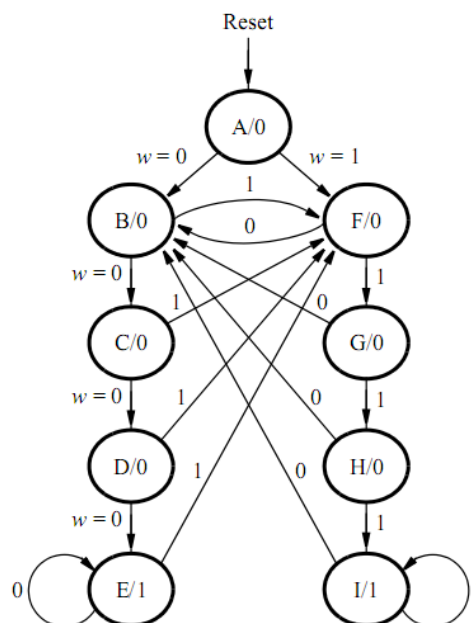

Figure 2. A state diagram for the FSM.
A state diagram for this FSM is shown in Figure 2. For this part you are to manually derive an FSM circuit that implements this state diagram, including the logic expressions that feed each of the state flip-flops. To implement the FSM use nine state flip-flops called  $y_8, \dots, y_0$  and the one-hot state assignment given in Table 1.
For this part you are to write another style of VHDL code for the FSM in Figure 2. In this version of the code you should not manually derive the logic expressions needed for each state flip-flop. Instead, describe the state table for the FSM by using a VHDL CASE statement in a PROCESS block, and use another PROCESS block to instantiate the state flip-flops. You can use a third PROCESS block or simple assignment statements to specify the output z.
5. To examine the circuit produced by Quartus II open the RTL Viewer tool. Double-click on the box shown in the circuit that represents the finite state machine, and determine whether the state diagram that it shows properly corresponds to the one in Figure 2. To see the state codes used for your FSM, open the Compilation Report, select the Analysis and Synthesis section of the report, and click on State Machines.